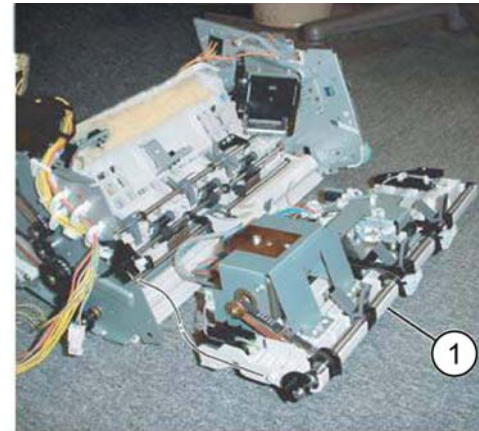

Figure 7 Compiler assembly removal
13. Remove the compiler assembly (1), Figure 7.